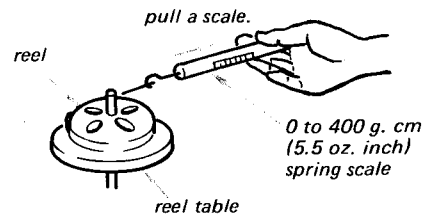

Fig. 3-12. FWD and REV back tension torque adjustment
2. Measure the back tensions by pulling the 0 to 400 g (14 oz) spring scale at approximately 9.5 cm/s (3-3/4 ips) speed in FWD [REV] mode. See Fig. 3-12. It should be 200 to 240 g.cm (2.78 to 3.32 oz. inch).
2. Measure the back tension by pulling the 0 to 400 g (14 oz) spring scale at approximately 9.5 cm/s (3-3/4 ips) speed in FF [REW] mode. See Fig. 3-12. It should be 60 to 80 g.cm (0.83 to 1.1 oz inch).